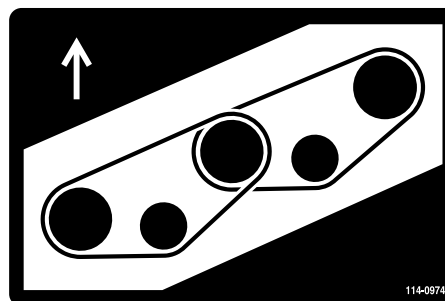
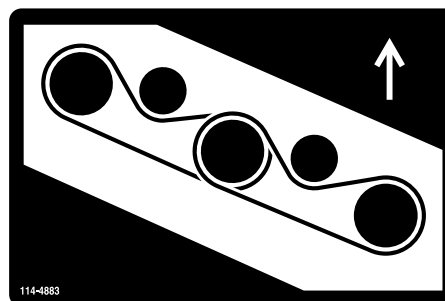

Figure 97
Figure 98
7. Route the new belt around the spindle pulleys and idler-pulley assembly (Figure 97 and Figure 98).